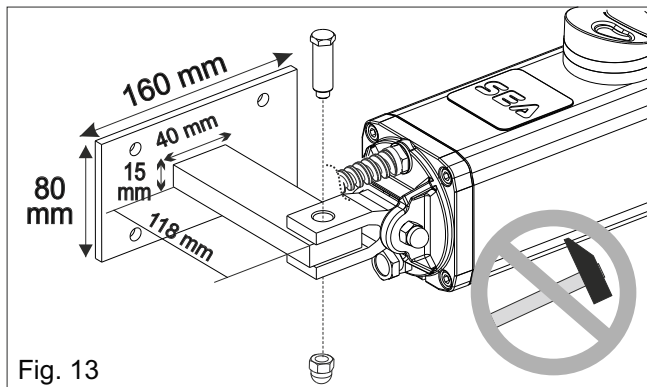

Fig. 13
- Fasten the rear oscillating bracket as shown in Fig. 13